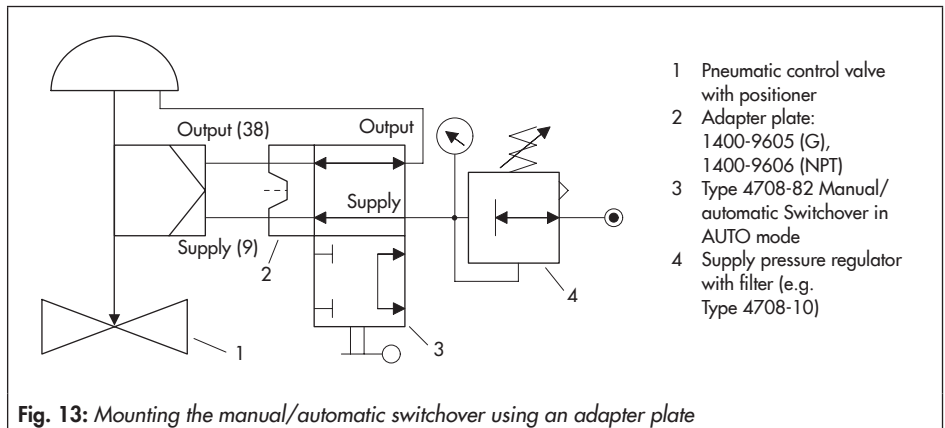

Fig. 13: Mounting the manual/automatic switchover using an adapter plate
- Connect hook-up for positioner and actuator as shown in Fig. 13.